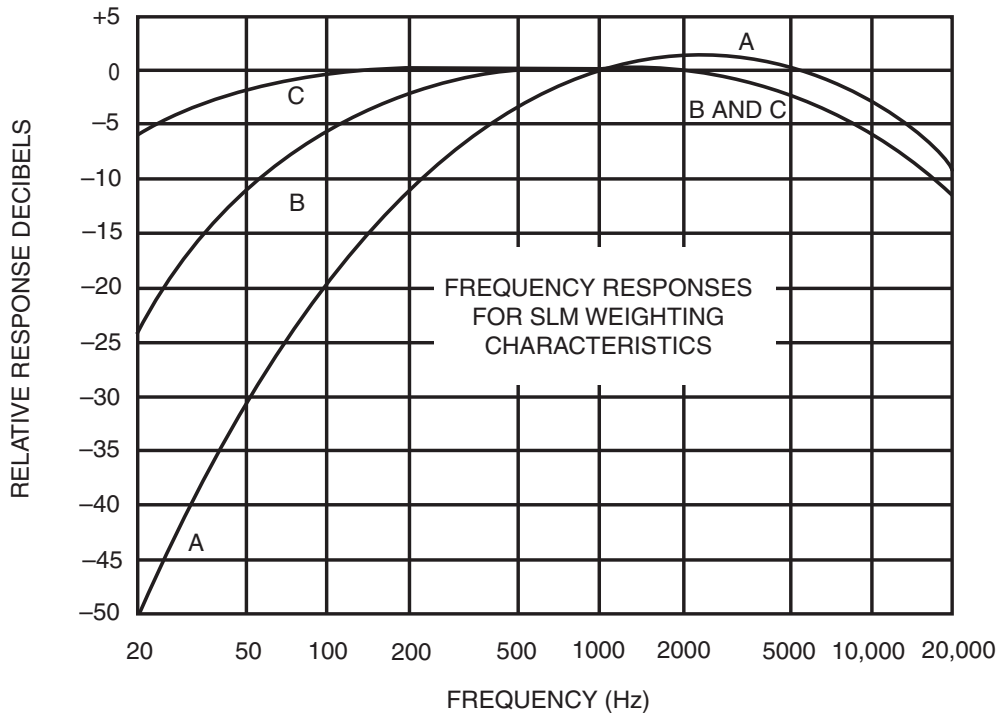

Figure 3-1. A, B and C Weighted Responses of the Sound Level Meter
As indicated in Figure 3-1, the "B" and "C" weighting curves include more of the low frequency information. Thus, at any level, measurements taken with various weightings can be compared in determining the frequency content of the noise. This is done by indicating the level dB, accompanied by the weighting letter notation "A", "B" or "C", preferable in parenthesis; e.g., the 100 dB (A), etc.